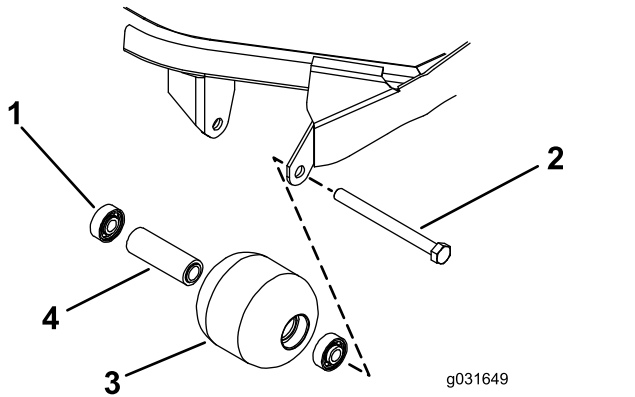

Figure 66
1. Remove the roller-mounting bolt (Figure 66).
4. Inspect the roller housing, bearings, and bearing spacer for damage (Figure 66).
1. Pressing on the outer race only or equally on the inner and outer race, press the first bearing into the roller housing (Figure 66).
2. Insert the spacer (Figure 66).
3. Pressing on outer race only or equally on the inner and outer race, press the second bearing into the roller housing until it contacts the spacer (Figure 66).